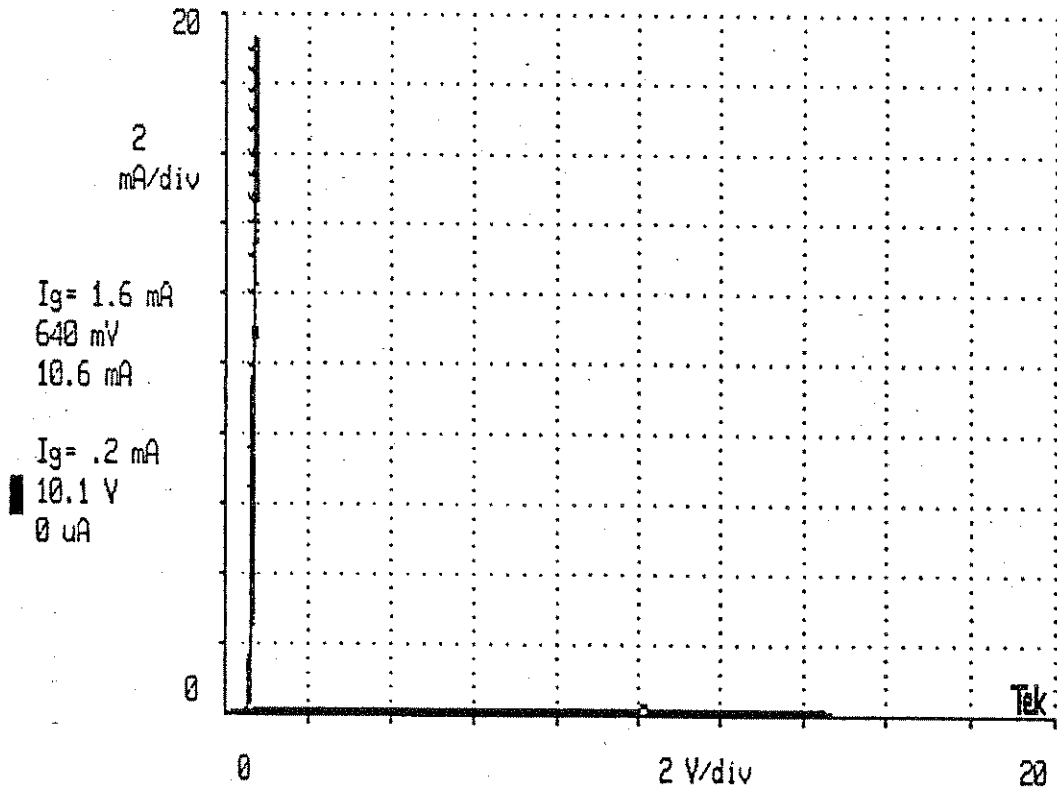

Figure 3-17: Thyristor Curves
Step 2. Press START and notice a curve as in Figure 3-17.